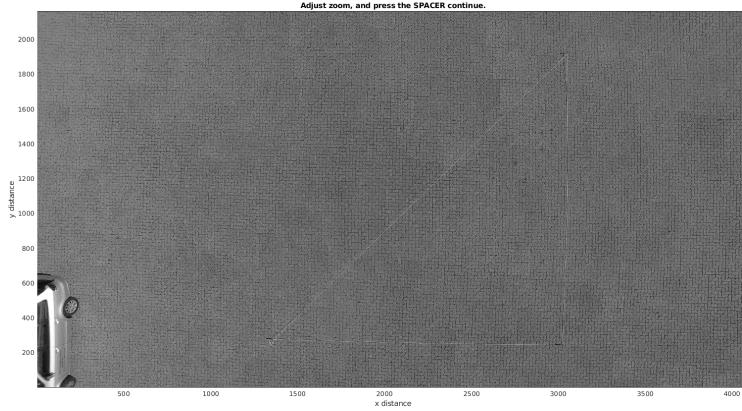

Figure 3.9: Frame from 10 meter right triangle at 15 meters height.
1. Record a known size object , with the Drone camera in nadir position (90 degrees). In the figure 3.9, a 10 meters right triangle is displayed, recorded at 15 meters height.